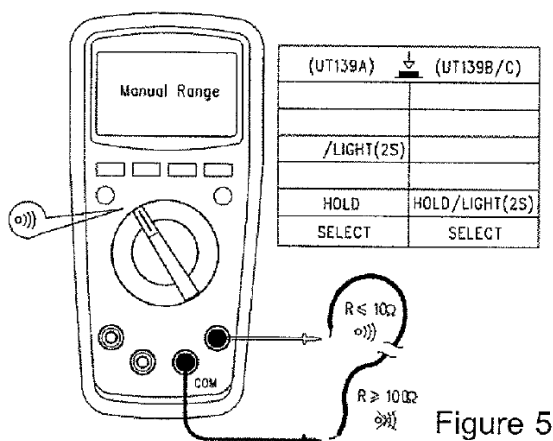

Figure 5
3. MASURARE CONTINUITATE (fig. 5)